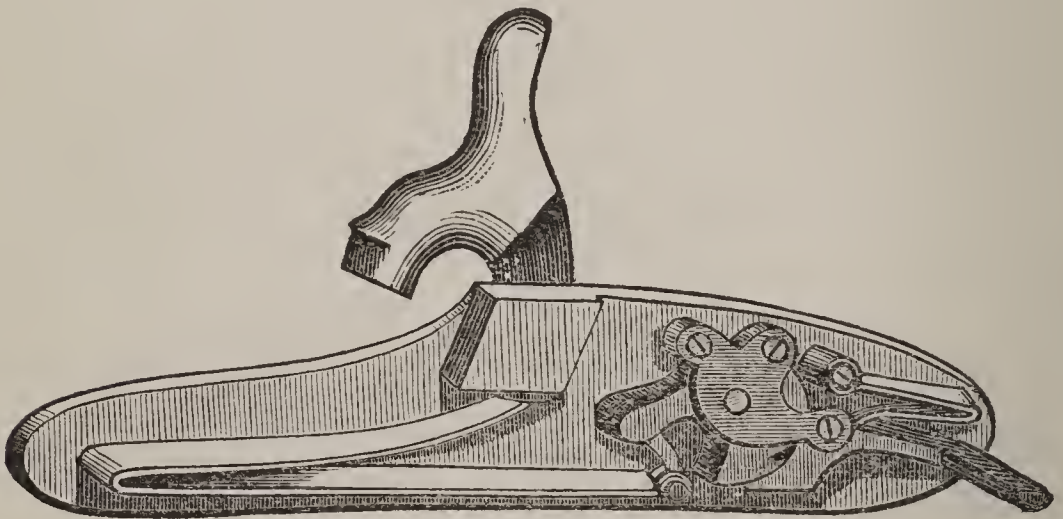

FIGURE 46.
*The Wesley Bar.*—The Wesley bar shown in Fig. 46 differs from the common bar lock by being of different shape at the fore end, and this end does not fit up to the barrel like the bar lock. By the wood